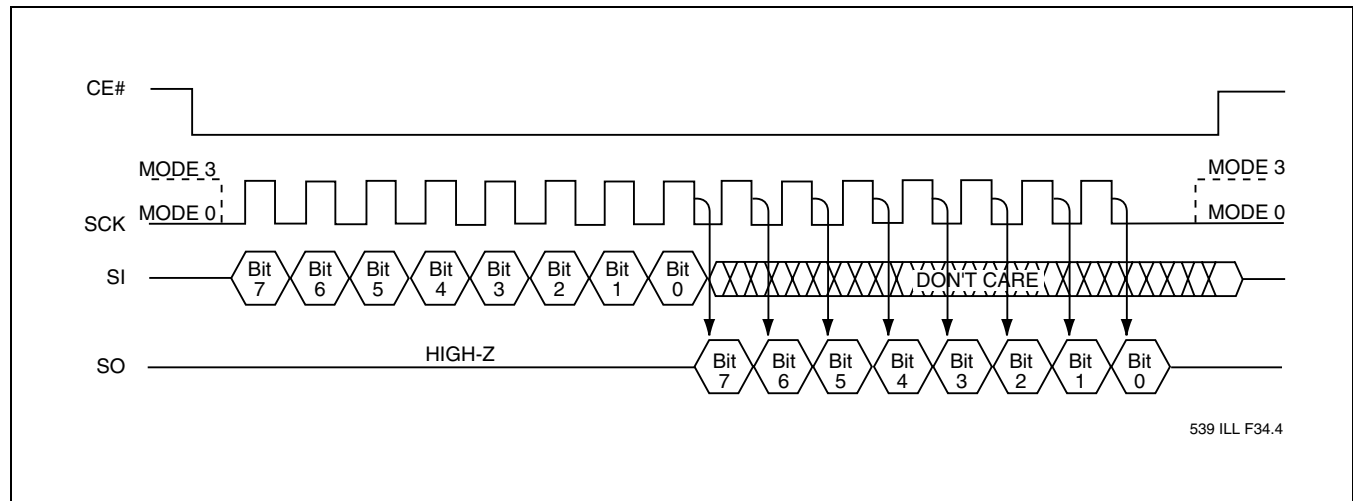

FIGURE 2: SPI PROTOCOL
The SST25VFxxx supports both Mode 0 (0,0) and Mode 3 (1,1) of SPI bus operations. The difference between the two modes, as shown in Figure 2, is the state of the SCK signal when the bus master is in Stand-by mode and no data is being transferred. The SCK signal is low for Mode 0 and SCK signal is high for Mode 3. For both modes, the Serial Data In (SI) is sampled at the rising edge of the SCK clock signal and the Serial Data Output (SO) is driven after the falling edge of the SCK clock signal.